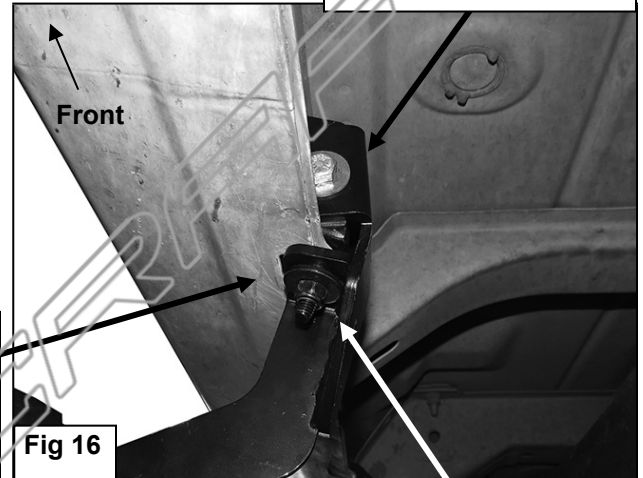

Fig 16
10. Line up the side tab on the Lower Bracket with the threaded hole in the side of the Upper Bracket. Attach the Lower Bracket to the Upper Bracket with (1) 8mm x 25mm Hex Bolt, (1) 8mm Lock Washer and (1) 8mm Flat Washer, (**Figure 16**). Leave loose at this time.